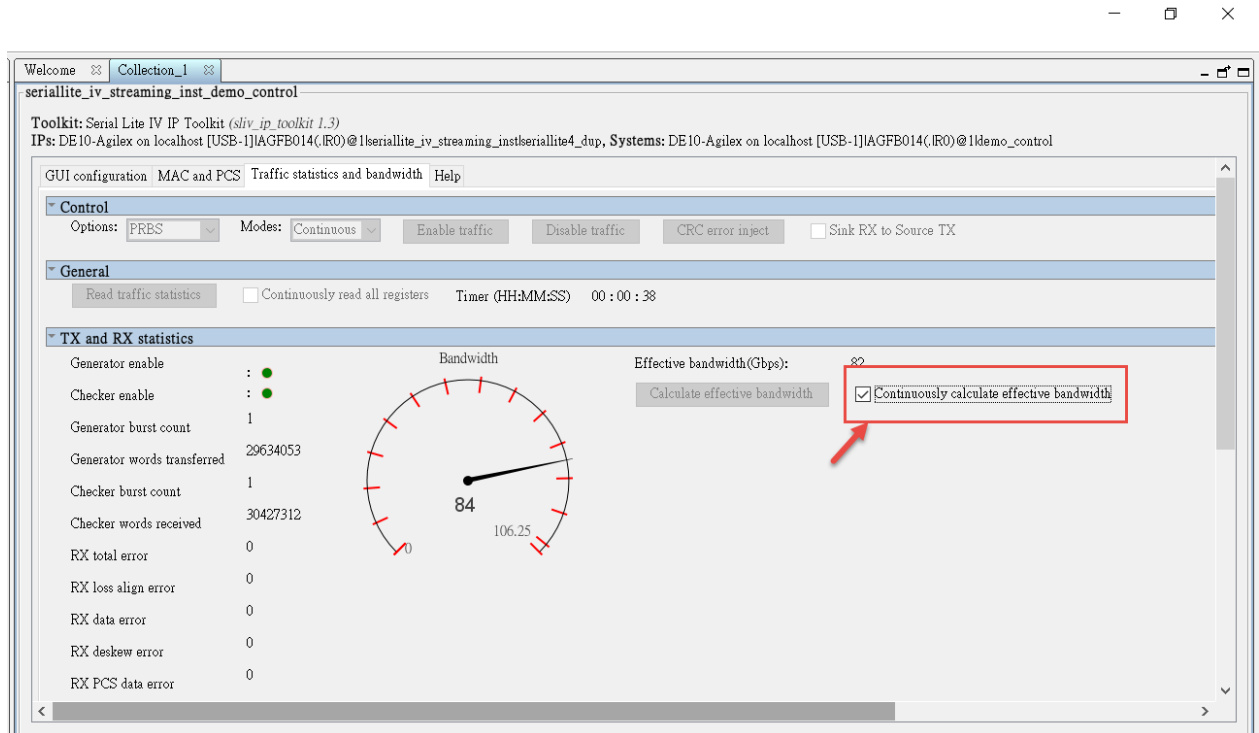

Figure 9-26 Real time bandwidth
10. If users enable the “Continuously calculate effective bandwidth” option as shown in **Figure 9-26**, it will show the real time bandwidth of this demonstration.